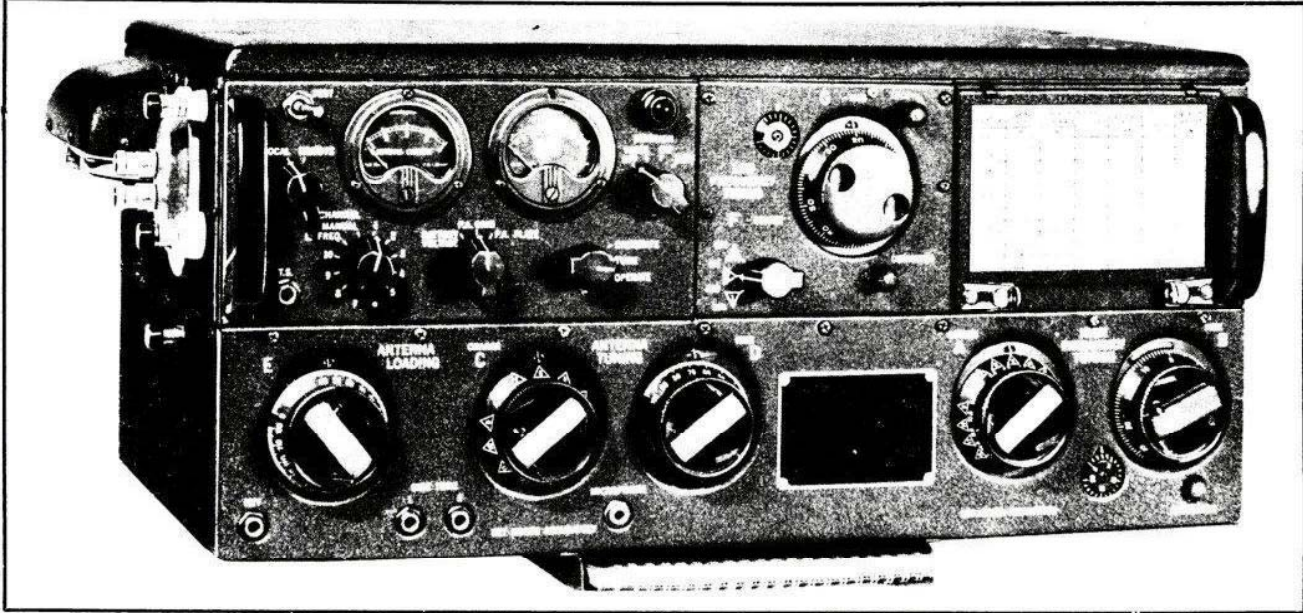

Figure 1-3—Radio Transmitter T-47A/ART-13 with Oscillator 0-17/ART-13A Installed
(2) RADIO TRANSMITTER T-47A/ART-13. (See Figure 1-3).—These transmitters are a redesign of Radio Transmitter T-47/ART-13. Several changes were made to the circuit including addition of an interlock switch and some components were changed. All of these transmitters are shipped from the factory with an 8Q-2 installed and with Panel MX-128/ART-13 installed in place of low frequency oscillators.